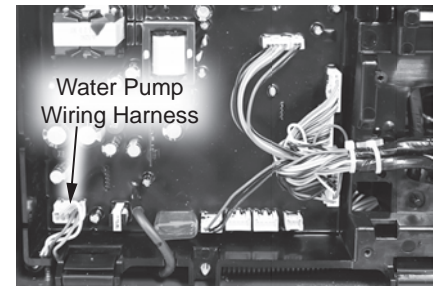

Figure 173 - Water pump wiring harness location
- 14 Locate the water pump wiring harness on the control board panel as shown in Figure 173. Disconnect and route the wiring out of the way for ease of removing the water pump.
- 30 Place the water pump into the water heater cabinet, routing the wiring harness cable behind the condensate collector and under the control board panel as shown in Figure 173. Use caution not
35 Lift the control board panel up and reconnect the water pump wiring harness previously disconnected in **Step 14**. Slide the wiring through the slot in the circuit board panel as shown in Figure 173. Lower control board panel.